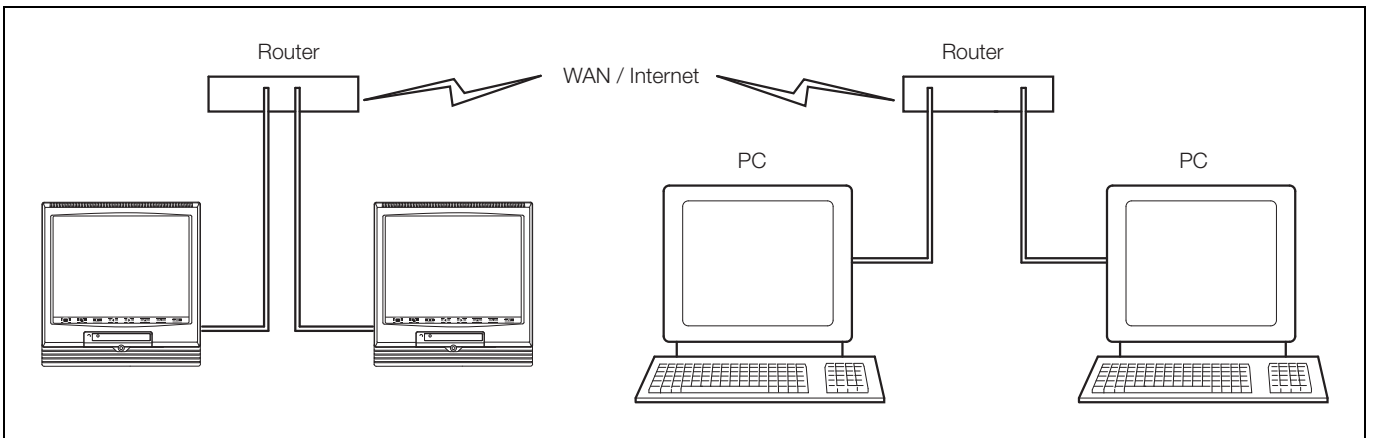

Fig. 7.19 Connection to a Dial-Up Router
- Connection to a dial-up router – see Fig. 7.19